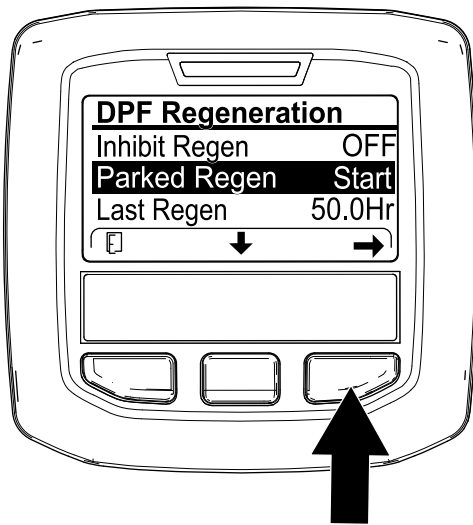

Figure 59
- Access the DPF Regeneration menu, press the center button to scroll down to either the PARKED REGEN START option or the RECOVERY REGEN START option (Figure 59), and press the right button to select the start the regeneration (Figure 59).